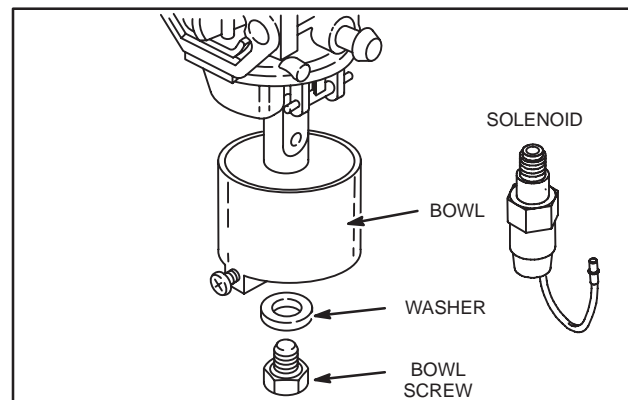

Fig. 5 – Removing Bowl
- Remove anti-afterfire solenoid or bowl screw, washer and carburetor bowl, Fig. 5.